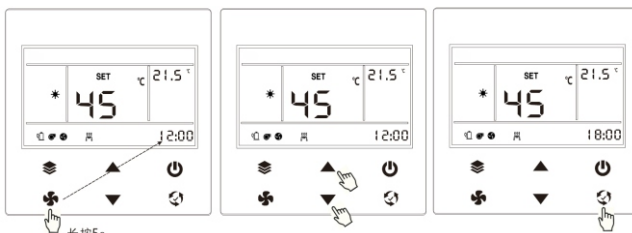
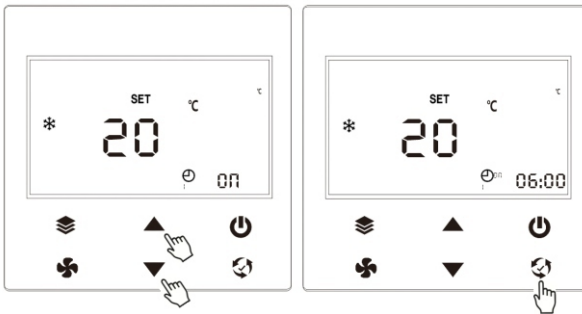
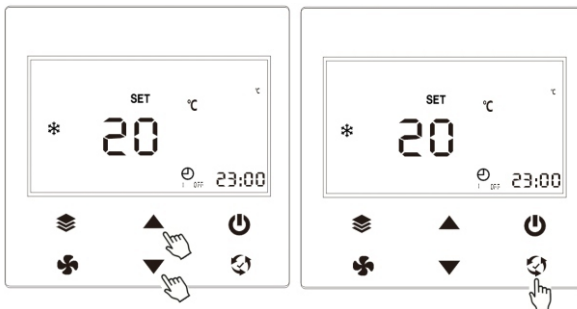

Figure 5. Set time operation steps
Figure 8. Set time period 1 boot timing time
图9.设定时段1关机定时时间
2. Long press or short press ▲ or ▼ to scroll to the current time point, such as 10:00 in Figure 5 and 6:00 in Figure 8;
4. Through the short or long press seconds ▲ or ▼ by the keys to set boot time, such as 6 set to boot, when time to adjust to 6, said to push the 3 short period of time (as shown in figure 8) timing boot time setting is complete, the interface will jump into the session 1 regular shutdown time setting, a shutdown time duration. Figure 9. Left-most diagram.